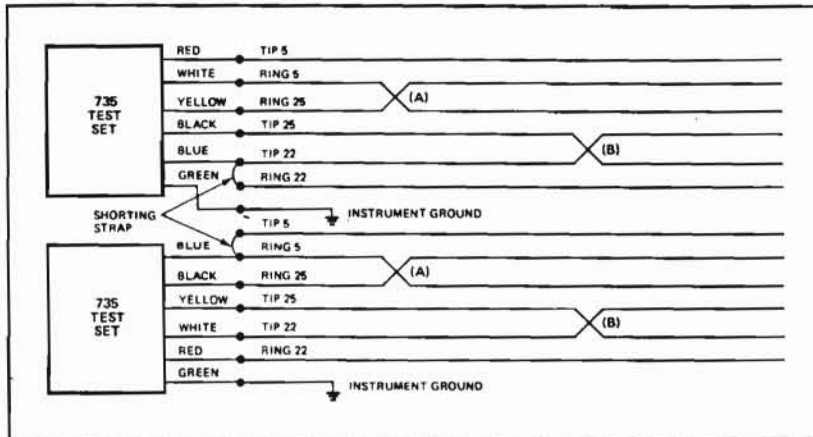

Figure 4-8. Locating Multiple Splits
4.13 MULTIPLE SPLITS. Set up the 735 as shown in Figure 4-8 and measure the split as described in 3-11 for each connection in the figure.